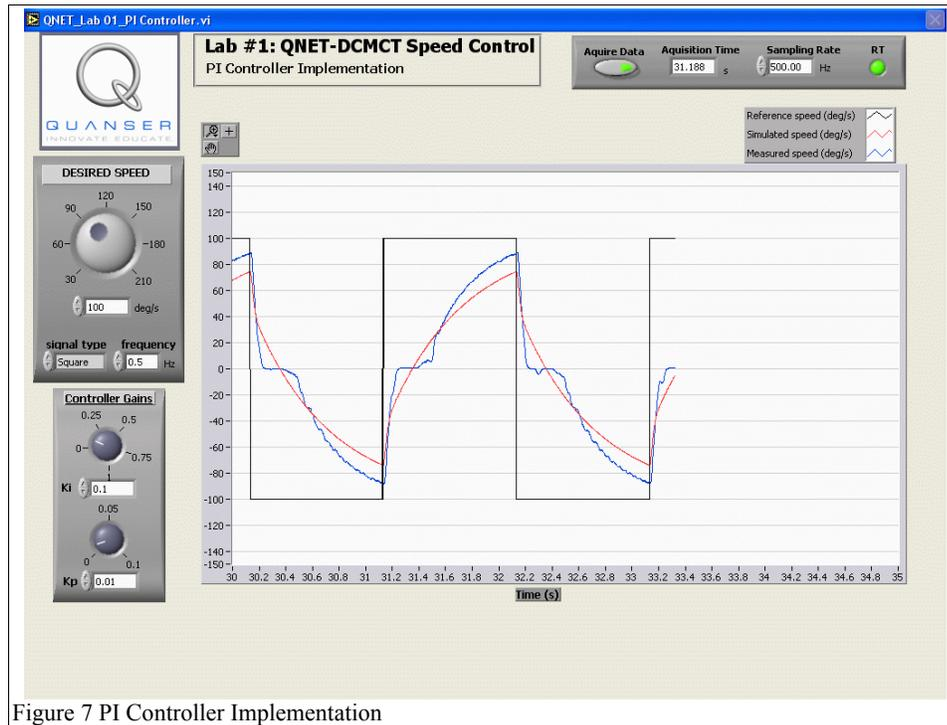

Figure 7 PI Controller Implementation
- (1) Maximum *rise time* of **0.15 s**.
- (2) *Overshoot* should be less than **5 %**.
- (3) *Settling time* less than **0.25 s**.
- (4) *Steady-state error* of **0 %** (i.e. measured motor speed should eventually reach the speed command).
- Step 25. Select the *Controller Implementation* tab to load the VI shown in Figure 7. The controller designed is now to be implemented on the actual QNET DC motor system. The scope in *Controller Implementation* VI, as shown in Figure 7, plots the simulated motor speed from the mathematical model developed and the actual closed-loop speed of the motor measured by the tachometer.
- Step 26. Ensure the proportional and integral gains designed to meet the specifications are set in the *Controller Gains* panel shown in Figure 7. The function generator in the *Desired Speed* panel is used to generate the reference speed. Set the commanded speed signal to a square signal with an amplitude of 100 degrees per second.